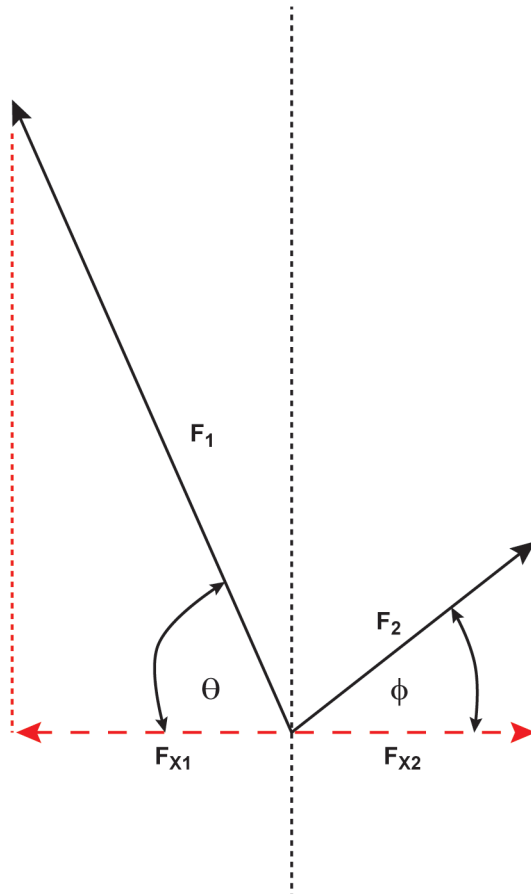

Figure 7
- 1. Figure 7 shows the horizontal forces that are derived from the two force vectors.